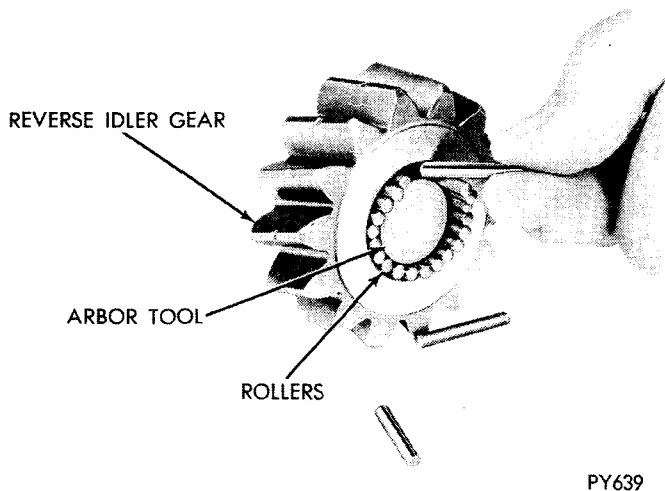

Fig. 33—Reverse Idler Gear—Roller and Arbor Assembly
(27) Place assembly arbor, Tool C-464 into idler gear along with 22 greased rollers (Fig. 33).
(28) Position reverse idler thrust washers in case with grease to retain them.